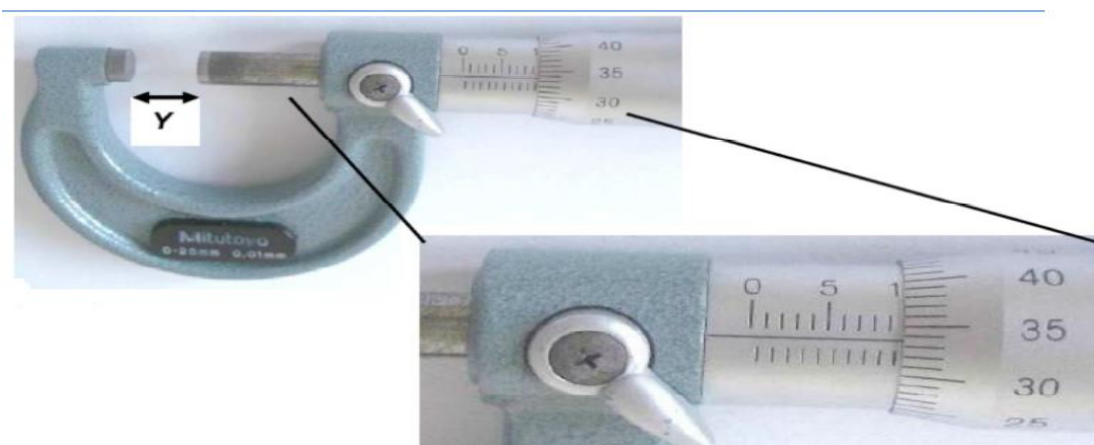

Figure 5
The ratchet is designed to ensure that the object that is placed between the anvil and the spindle undergoes a certain amount of pressure, but that the pressure does not cause significant object deformation, which would affect the precision of the measurement. Therefore, rather than directly turning the thimble to compress the object during measurement, we should turn ratchet (H) for adjustments. We will use an example to demonstrate the usage of micrometer screws. Figure 5 shows the positions of S and T when the length of an object is Y . The edge of T is located between 9.5 and 10.0 mm on S, and the reading on T is 33.5. Therefore, the distance between the edge of T and the 9.5 mm on S is.